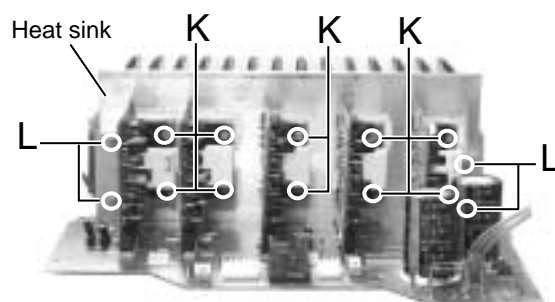

Fig.15
■ Removing the Heat sink (See Fig.15 to 16)